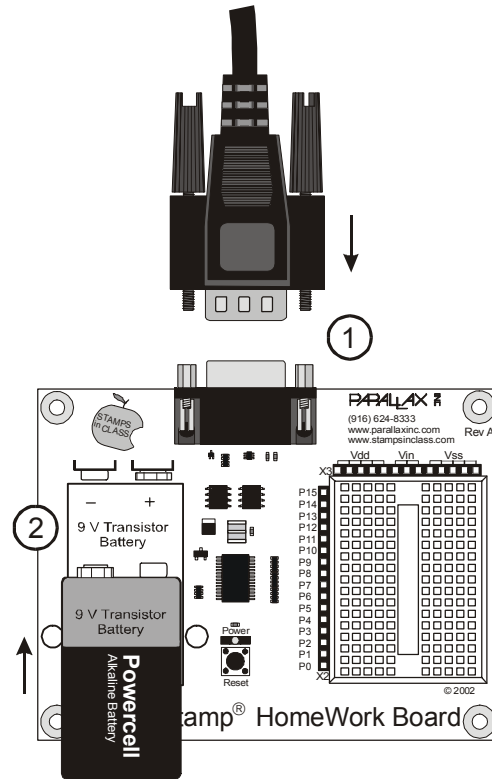

Figure 1-31
- ✓ Connect the serial cable to the HomeWork Board as shown in Figure 1-31, step-1.